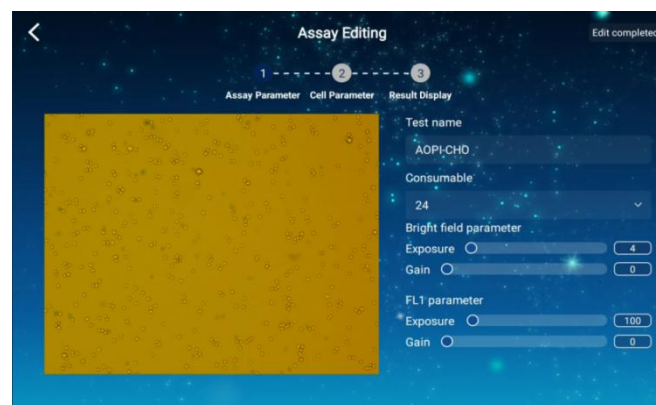

Fig. 2.47 Editing interface for BioApps (assay templates)
When the user clicks on the "Edit" icon at the bottom of the AOPI-CHO BioApp, the "Assay editing" user interface is opened to show the Basic Information (1) by default (see **Fig. 2.47**).